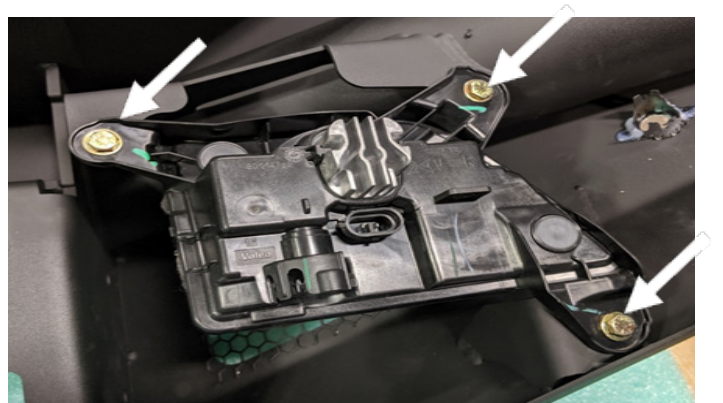

Figure 27
29. Use a pair of 7/16" wrenches and the provided six (6) bolt stacks of 1/4"-20 x 1", yellow zinc hex bolt, flat washers, lock washer, and hex nut, fully install the Oem fog lights into the bumper (22091)(50217-HW). Figure 27